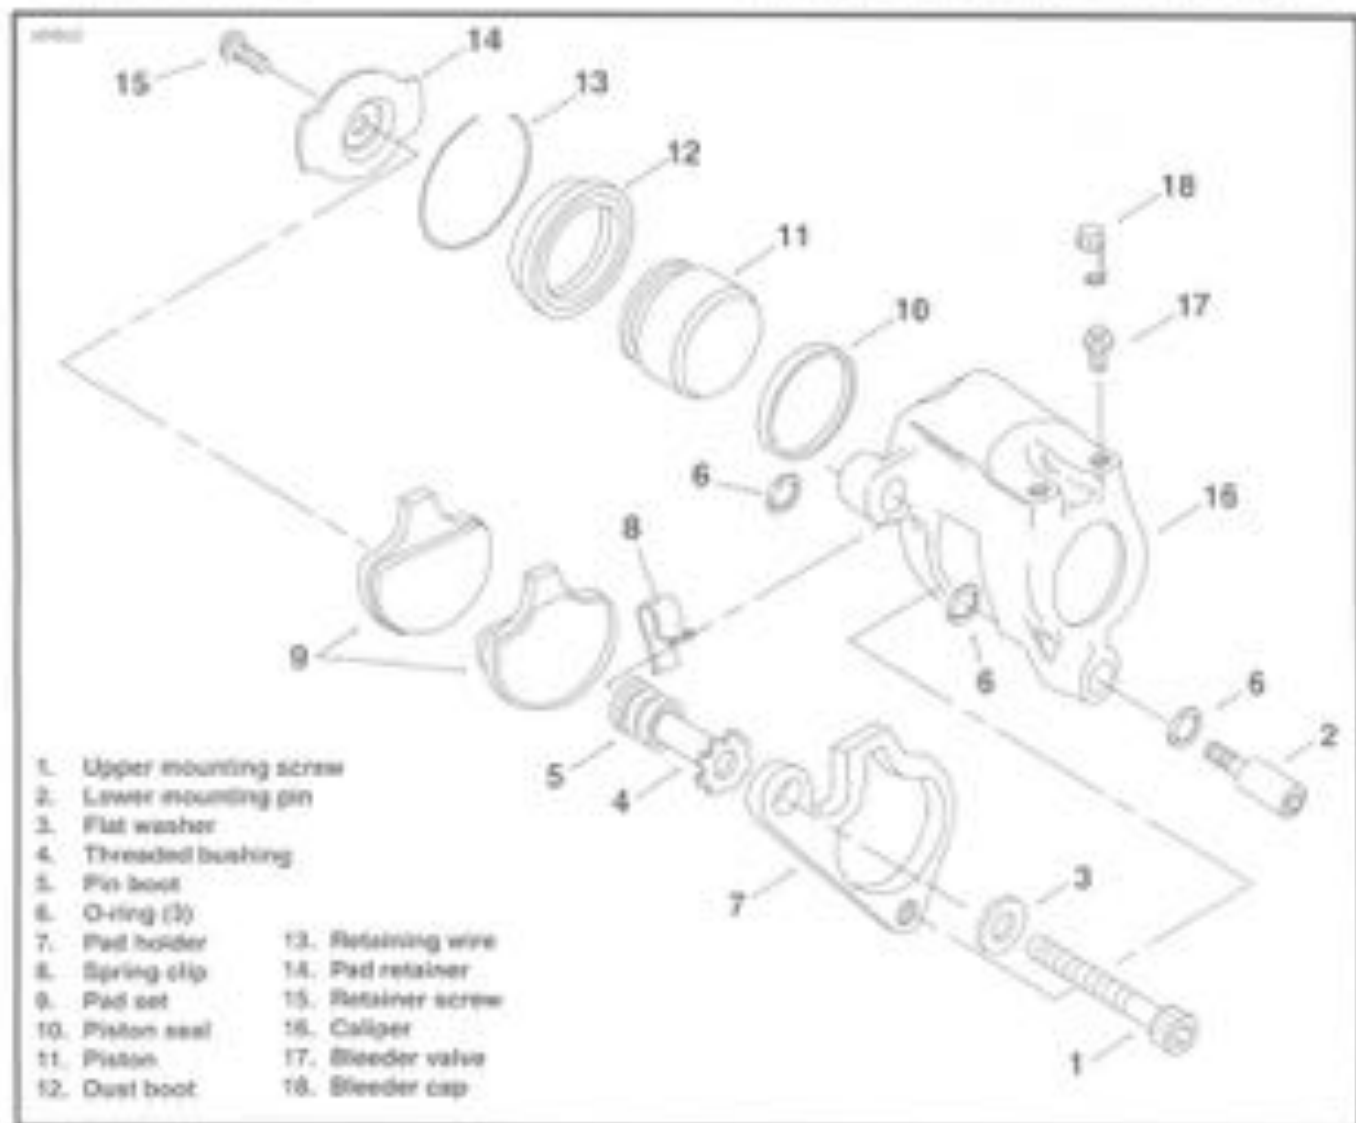

Figure 2-50. Front Brake Caliper
(Figure 2-50)
CLEANING, INSPECTION AND REPAIR (Figure 2-50)
1. See Figure 2-50. Install new seal (10) in groove of caliper piston bore (16). Install new O-ring (6) in groove of threaded bushing bore. Install new O-rings (8) in each groove of lower mounting pin bore. Apply DOW CORNING 44 GREASE (tube marked "PIN LUBE" in service parts kit) to interior cavity of pin boot (5). Insert flanged end of pin boot in groove of threaded bushing bore.
2. Install dust boot (12), with its concave side facing piston (11), over top of piston. Seat the inner lip of dust boot in groove at top of piston.
3. Apply light coat of NovaGard silicone grease (marked "PISTON LUBE" in service parts kit) to piston O.D., including chamfer. Apply a light coat to caliper piston bore (16) and I.D. of installed piston seal (10). Install piston (with dust boot) into caliper piston bore. Use a "C" clamp to press in piston, if necessary.
7. See Figure 2-50 and 2-51. Lay down pad holder (7) on a firm flat surface with upper mounting screw (threaded bushing) hole positioned at the upper right.
8. Hook lip on looped end of clip (8) under inside edge of pad holder at top. Holding pad holder down, raise clip to snap in place on pad holder. Pick up pad holder to verify that clip is firmly attached. Lay pad holder back down in the same orientation.
9. With back insulator backing facing pad holder, center sub-board pad (9) within pad holder. In this position, tang of pad rests on clip loop while buttons of pad slightly enter opening of pad holder. Push down on tang until pad lies flat. Pick up pad holder to verify that pad is firmly attached. One lip on clip should be caught on pad holder, the other on tang of pad.
- See Figure 2-50. Insert the assembly (outboard pad, pad holder and spring clip) into place on caliper (16) with insulator side of pad against face of piston (11).
- See Figure 2-50. Apply light coat of DOW CORNING 44 GREASE (marked "FIN LUBE" in service parts kit) to O.D. of lower mounting pin (2).
- See Figure 2-50. Insert lower mounting pin (2) through caliper (16) and front fork lower mounting lug. Thread pin into tapped hole at lower end of pad holder (7). Tighten pin to 25-30 ft-lbs (34-41 Nm) torque.
- Install upper mounting screw (1) with spacer washer (3) through front fork upper mounting lug and pad holder (7). Thread the screw into threaded bushing (4). Tighten screw to 25-30 ft-lbs (34-41 Nm) torque.
- Install bleeder valve (17) and valve cap (18), if removed. Tighten valve to 80-100 in-lbs (9.0-11.3 Nm) torque.